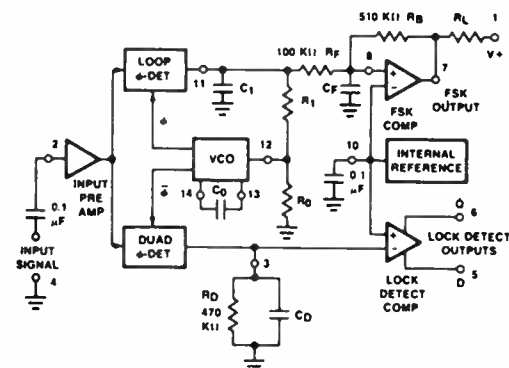
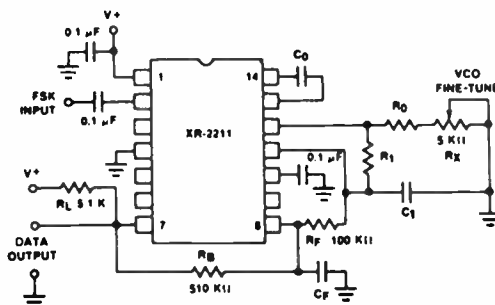

Figure 2. Generalized Circuit Connection for FSK and Tone Detection
Figure 9. Circuit Connection for FSK Decoding
**FSK Comparator Input (Pin 8):** This is the high impedance input to the FSK voltage comparator. Normally, an FSK post-detection or data filter is connected between this terminal and the PLL phase detector output (Pin 11). This data filter is formed by  $R_F$  and  $C_F$  of Figure 2. The threshold voltage of the comparator is set by the internal reference voltage,  $V_R$ , available at Pin 10.
**Quadrature Phase Detector Output (Pin 3):** This is the high impedance output of quadrature phase detector and is internally connected to the input of lock detect voltage comparator. In tone detection applications, Pin 3 is connected to ground through a parallel combination of  $R_D$  and  $C_D$  (see Figure 2) to eliminate the chatter at lock detect outputs. If the tone detect section is not used, Pin 3 can be left open circuited.
**Loop Phase Detector Output (Pin 11):** This terminal provides a high impedance output for the loop phase detector. The PLL loop filter is formed by  $R_1$  and  $C_1$  connected to Pin 11 (see Figure 2). With no input signal, or with no phase error within the PLL, the dc level at Pin 11 is very nearly equal to  $V_R$ . The peak voltage swing available at the phase detector output is equal to  $\pm V_R$ .
**VCO Frequency Adjustment:** VCO can be fine-tuned by connecting a potentiometer,  $R_x$ , in series with  $R_0$  at Pin 12 (see Figure 9).
(See Figure 2 for definition of components.)
Figure 9 shows the basic circuit connection for FSK decoding. With reference to Figures 2 and 9, the functions of external components are defined as follows:  $R_0$  and  $C_0$  set the PLL center frequency,  $R_1$  sets the system bandwidth, and  $C_1$  sets the loop filter time constant and the loop damping factor.  $C_F$  and  $R_F$  form a one-pole post-detection filter for the FSK data output. The resistor  $R_B$  (= 510 K $\Omega$ ) from Pin 7 to Pin 8 introduces positive feedback across the FSK comparator to facilitate rapid transition between output logic states. Recommended component values for some of the most commonly used FSK bands are given in Table 1.
The circuit of Figure 9 can be tailored for any FSK decoding application by the choice of five key circuit components:  $R_0$ ,  $R_1$ ,  $C_0$ ,  $C_1$  and  $C_F$ . For a given set of FSK mark and space frequencies,  $f_1$  and  $f_2$ , these parameters can be calculated as follows:
Note: All calculated component values except  $R_0$  can be rounded to the nearest standard value, and  $R_0$  can be varied to fine-tune center frequency, through a series potentiometer,  $R_X$ . (See Figure 9.)
Table 1. Recommended Component Values for Commonly Used FSK Bands. (See Circuit of Figure 9.)
With reference to Figures 2 and 11, the functions of the external circuit components can be explained as follows:  $R_0$  and  $C_0$  set VCO center frequency;  $R_1$  sets the detection bandwidth;  $C_1$  sets the low pass-loop filter time constant and the loop damping factor.  $R_{L1}$  and  $R_{L2}$  are the respective pull-up resistors for the Q and  $\bar{Q}$  logic outputs.